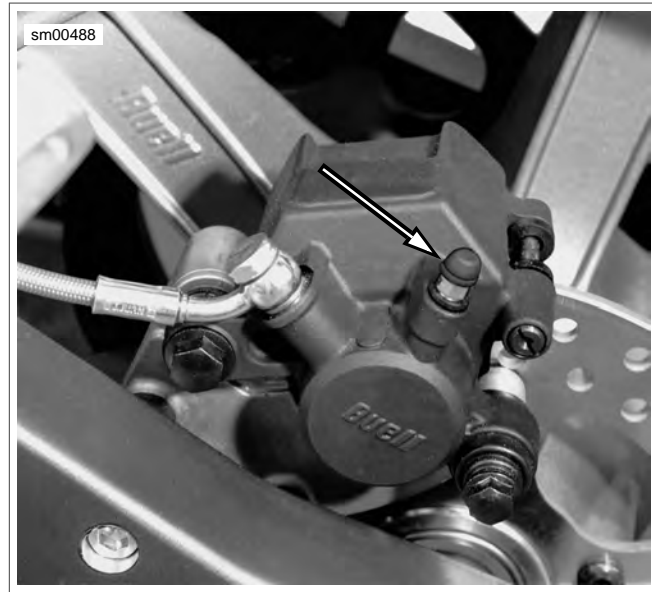

Figure 1-11. Rear Caliper Bleeder Valve
1. See Figure 1-11. Remove rubber cap and install end of plastic tubing over rear caliper bleeder valve. Place other end of tubing in a clean container.